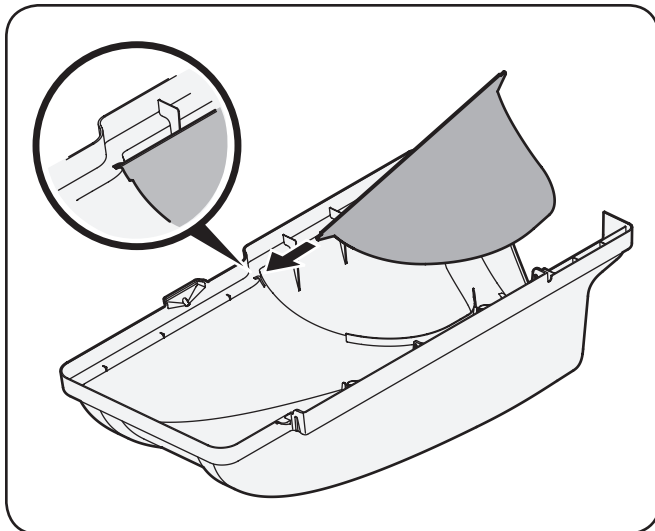
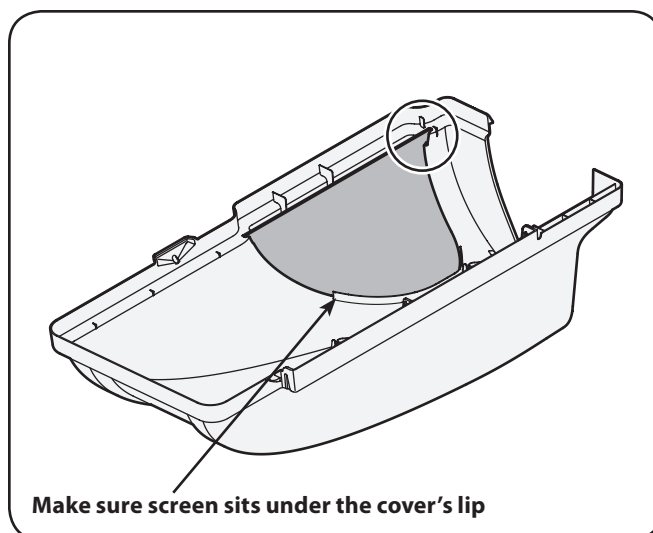

Figure 4-9
Figure 4-10
3. Install the bagger screen into the bagger cover by first inserting the end closest to the center into the cutout mounting hole, as in Fig. 4-9. Make sure to feed the screen under the lip, as in Fig. 4-10.
4. Clip in the other side by flexing the screen and pushing it down into the provided cutout hole. See Fig. 4-10.